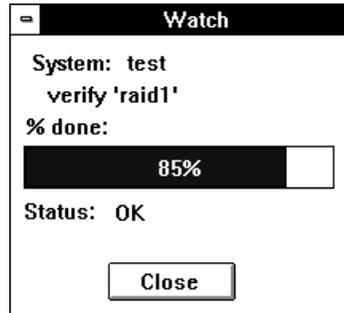

Figure 6-3. Watch Window
- 3 Click the **Watch** button. A small Watch window for this activity appears, as shown in Figure 6-3. Each window has a percent complete graph and a Status field (OK, Done, Failed). If a Verify operation is running, there is also a field listing the num-